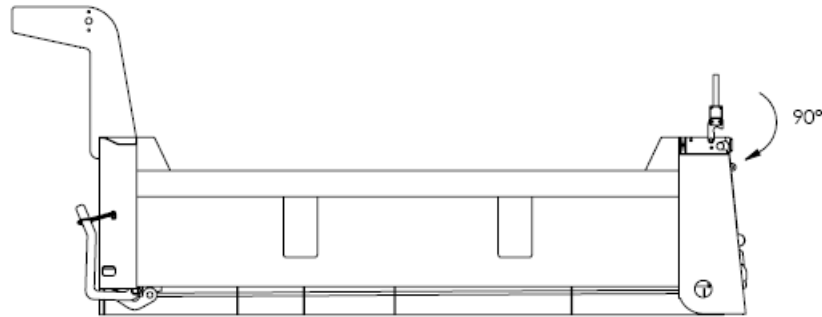

FIGURE 9
- a. Rotate the top latch handle down as shown in Figure 9.